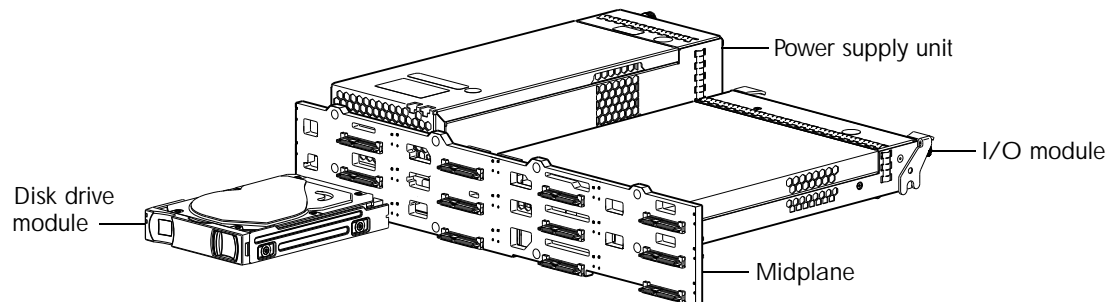

Figure 16 Enclosure architecture — internal components sub-assembly (reduced-depth 2U12)
- Internal components sub-assembly — Figure 16 on page 25